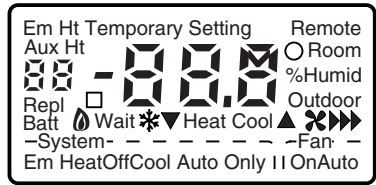

Fig. 9. Display of all the segments of the LCD.
- To enter the Installer Setup mode, press and hold the Information [i] key with the increase ▲ and decrease ▼ keys until the first number is displayed. All display segments appear for approximately three seconds before the number is displayed. See Fig. 9 and 10.